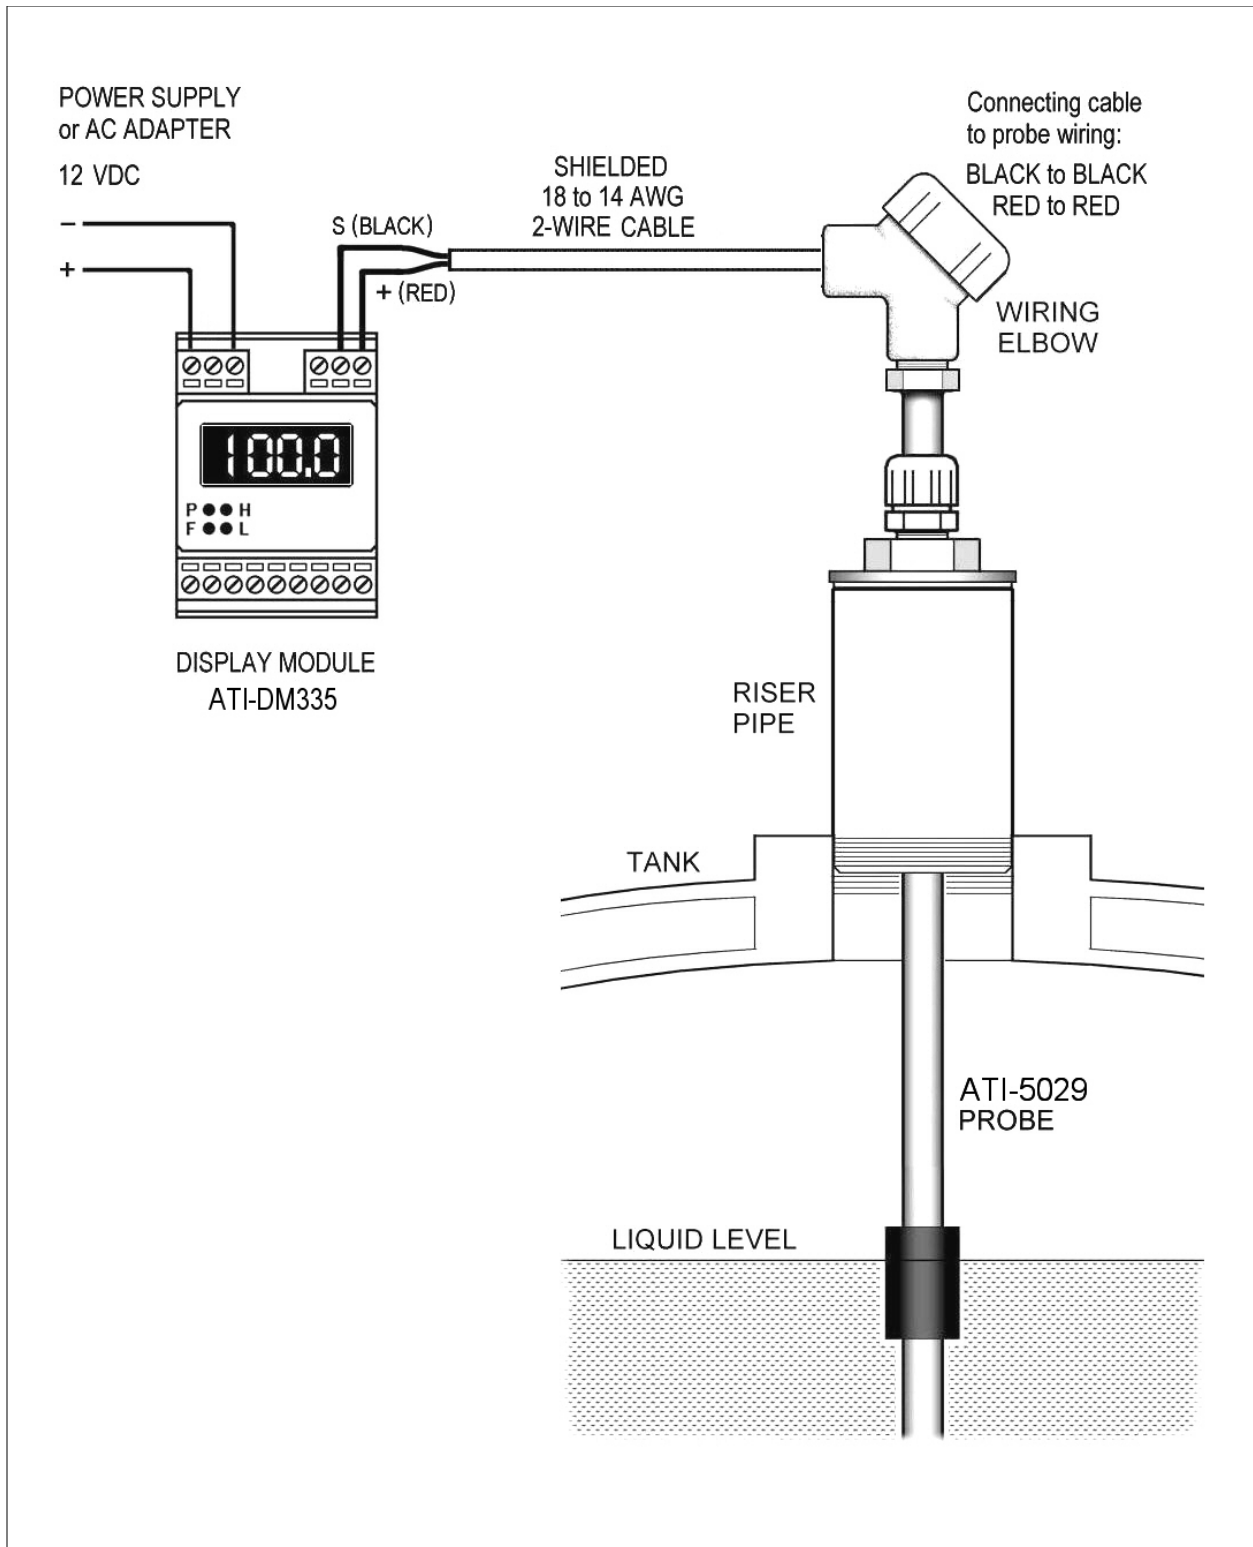

FIGURE 2: Wiring of ATI-5029 probe to ATI-DM335 display module.
The ATI-5029 Level Measurement Probe is a 2-wire device that may be wired to the ATI-DM335 display module (see FIGURE 2). The ATI-5029 can also be wired to a 3rd party monitor or computer that takes a 4 to 20 mA input. Note that no IS barrier is required as the ATI-5029 is CSA certified as explosion-proof for Class I, Group D locations.
- 5) Remove the cover cap from the probe's electrical wiring elbow and adjust the trimmer (coloured red) until the display module reading corresponds to the measurement dipstick reading (see FIGURE 2).